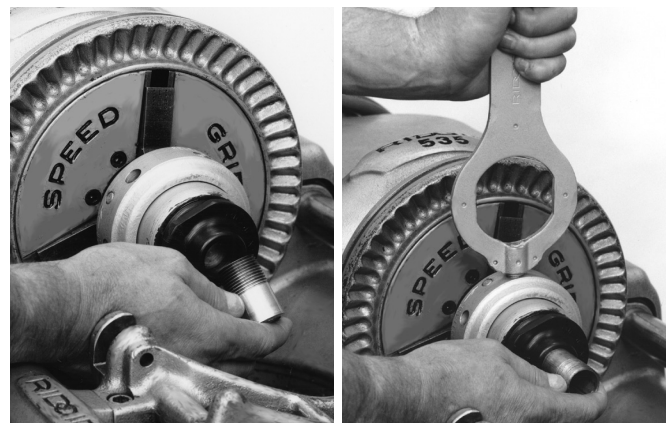

Figure 3 – Releasing Nipple with Wrench
5. Screw nipple (*Figure 3*) threaded on one end into adapter by hand. Turn directional switch to ON and press down on foot switch. Ream and thread other end.
6. Insert pin on end of wrench (*Figure 3*) into one of holes in nipple chuck release collar and turn. Remove threaded nipple by hand.